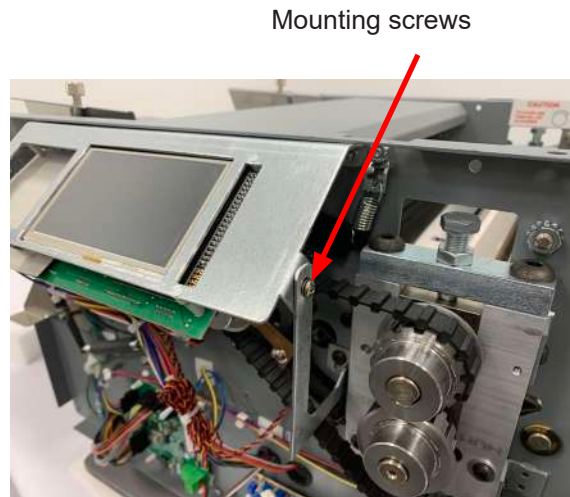

Fig. 44a
3. Remove the two mounting screws holding the control panel assembly to the side frame (Fig. 44a/44b).